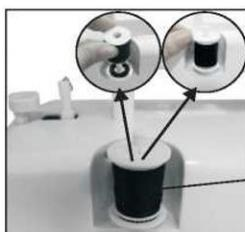

Fig.11
- (1) Put a spool of thread on spool pin (Fig.11).